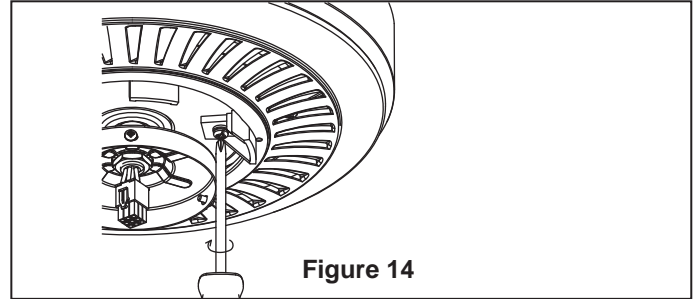

Figure 14
1. Remove and discard the (rubber) motor “stops” by removing the five screws. (Figure 14)